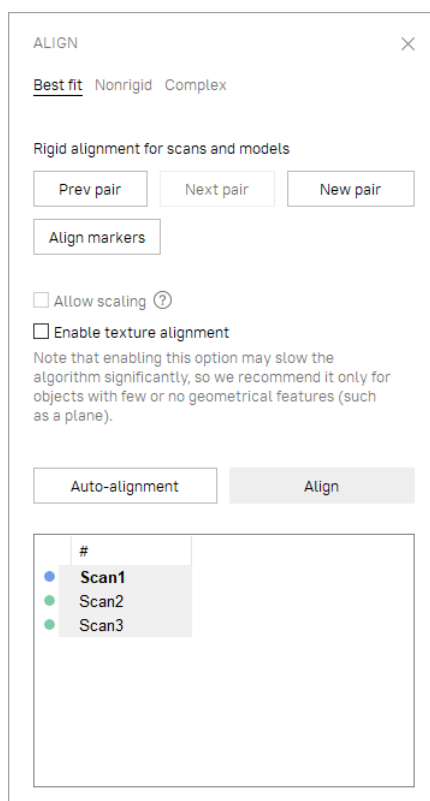

Figure 86: *Align* panel: *Best fit* tab.
1. Make sure the *Best fit* tab is selected in the *Align* panel (see Figure 86). The tool will automatically select all scans. Clear unnecessary selections by using the **Ctrl** key (see Alignment).
1. Make sure the *Best fit* tab is selected (see Figure 86).
2. Open the *Align* panel and make sure that the *Best fit* tab is opened (see Figure 86).